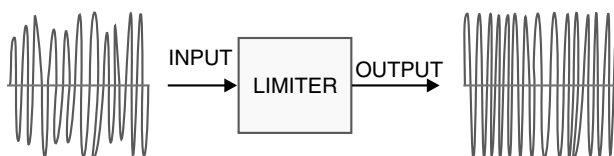

Fig. 14.30
**3. Limiter Stage.** The output from *IF* stage is fed to the limiter. This circuit is an *IF* amplifier tuned to 10.7 MHz but its main function is to remove AM interference from the FM signal. Fig. 14.30 shows how the limiter removes AM interference from the FM signal. The input is an FM signal, but it has different amplitude levels because of AM interference has been added. However, the limiter circuit keeps the output level constant for different input levels.